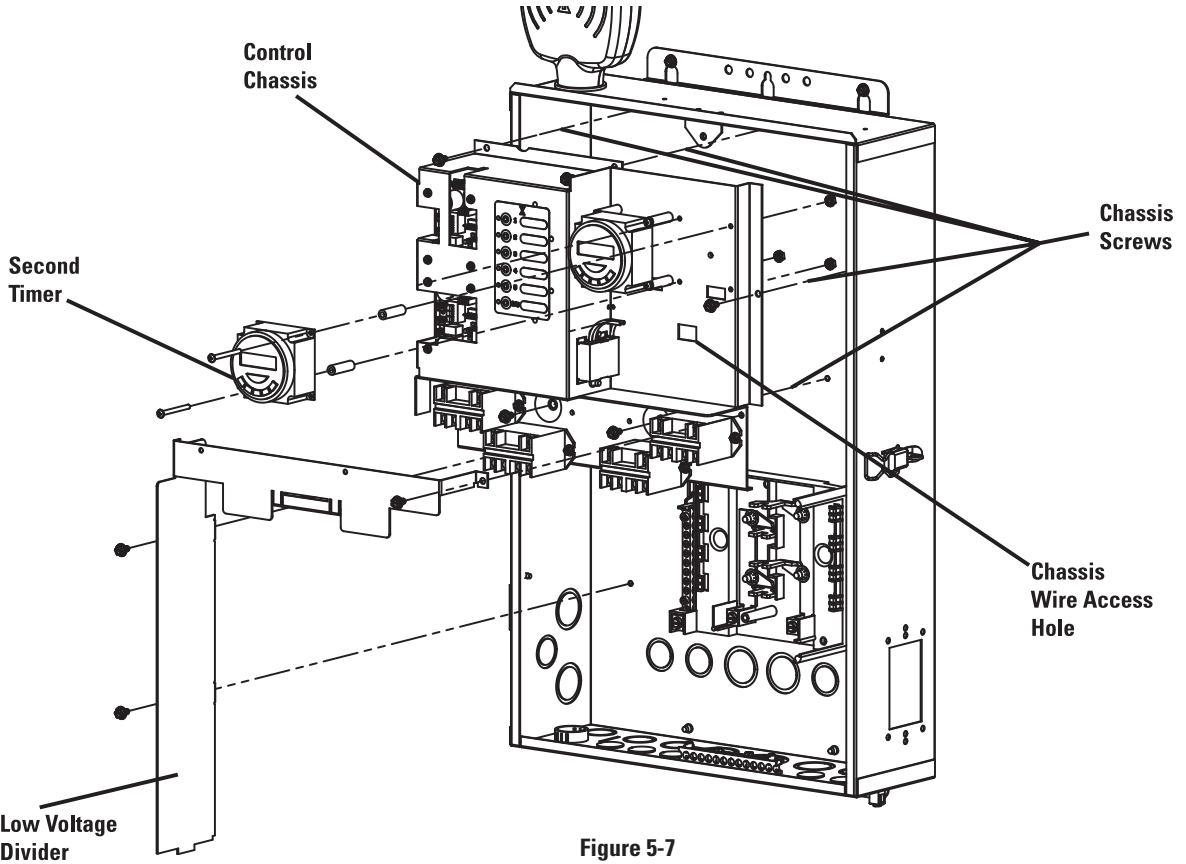

Figure 5-7
- 5. Remove the Low-Voltage Divider to gain access to the Control Chassis Screws. (See Figure 5-7.)
- 6. Remove the screws that secure the Control Chassis. (See Figure 5-7.)
- 7. Install the second timer using the hardware provided with the PB313EK timer kit. Reference the timer already installed if not sure how to install the second timer. (See Figure 5-7.)